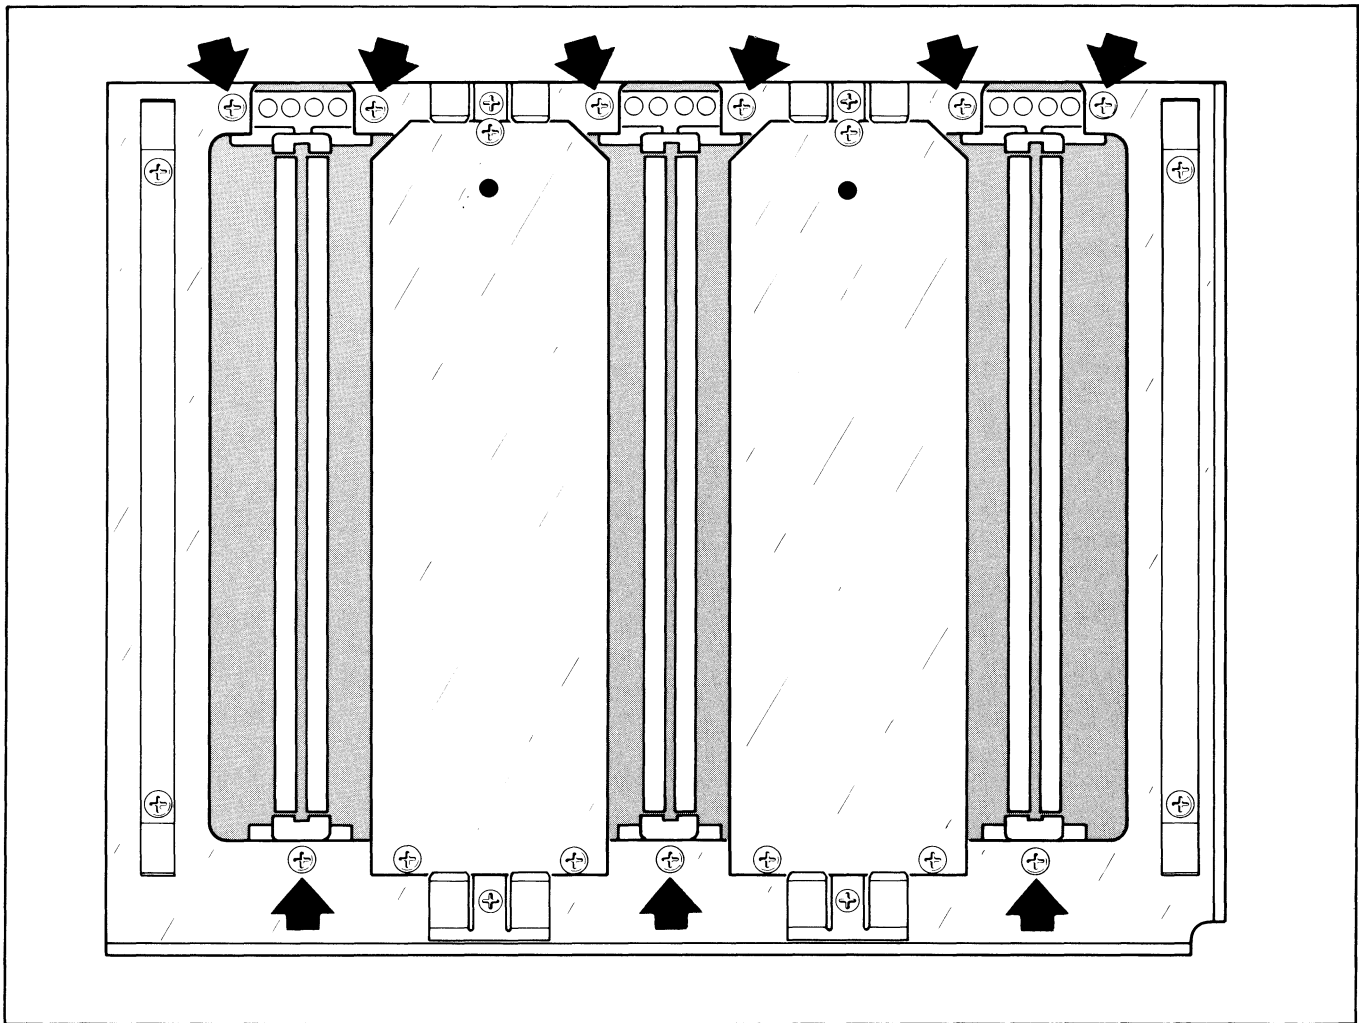

Figure 4-14. Screws that retain the A6 Interface Board.
3. Remove the nine screws which fasten the plug-in interface connectors to the chassis (see Fig. 4-14).